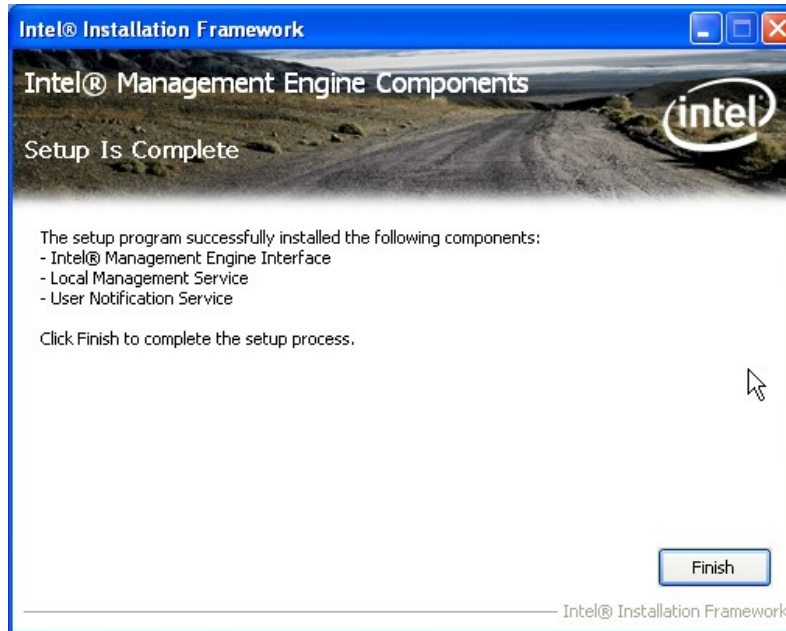

Figure 6-33: Intel® ME Driver Installation Finish Screen
Step 14: The **Finish** screen in Figure 6-33 appears.